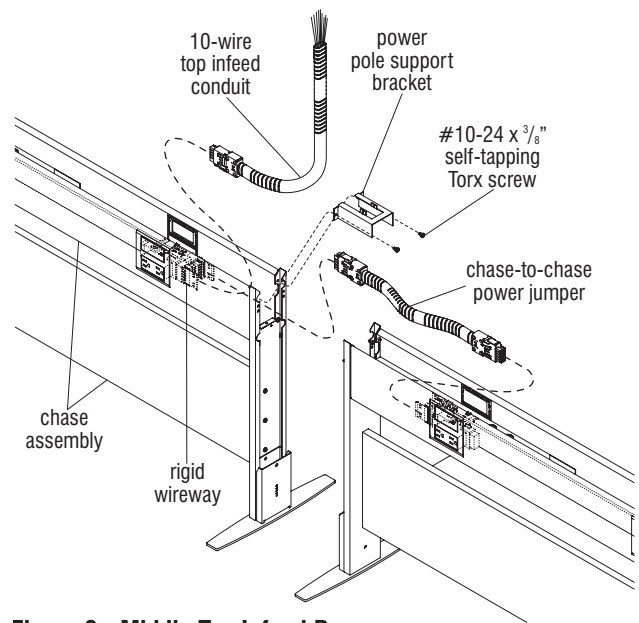

Figure 9 - Middle Top Infeed Power
1. At one chase assembly (left shown), a power pole support bracket must be installed. Begin by removing the upper two #10-24 x $\frac{3}{8}$ " self-tapping Torx screws which attach the leg of the chase assembly to the horizontal beam of that assembly. Next, locate and position a power pole support bracket over the mounting holes where the above screws were removed, and secure the bracket over the leg and into the end of the trough using the same #10-24 x $\frac{3}{8}$ " screws (Figure 9).
2. At the same chase assembly which had the power pole support bracket attached to it in step 1 above, snap the plug-end of the 10-wire top infeed conduit into the rigid wireway end. At the other socket location in the same rigid wireway, plug in a chase-to-chase power jumper, routing it under the installed power pole support bracket and then plug the other end of the jumper into the rigid wireway of the second (right-hand shown) chase assembly. (Figure 9).